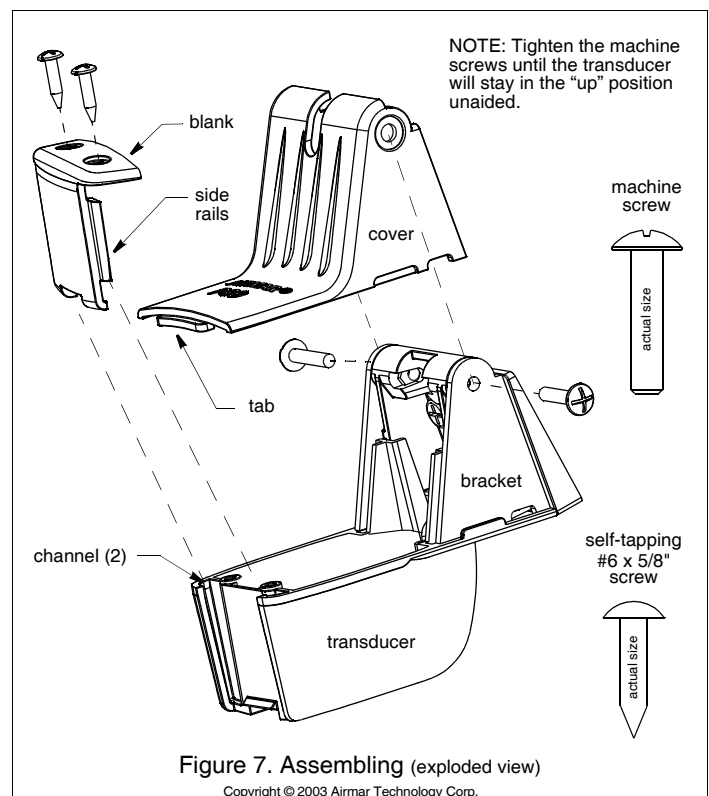

Figure 7. Assembling (exploded view)
1. Place the cover on the transducer (see Figure 7). Align the holes in the cover with the holes in the transducer and bracket.